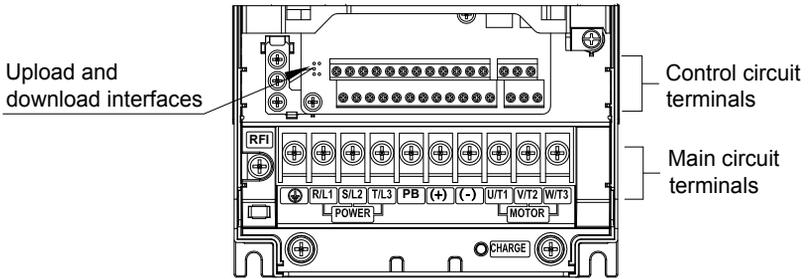

Fig.3-12 4~15kW Schematic of main circuit terminals
Weak analog voltage signals are easy to suffer external interference, and therefore the shielded cable must be used and the cable length must be less than 20 m, as shown in following figure. When the analog input signal to an external power supply, AI1 Terminal wiring as shown in Fig 3-12
- (a) .When the input analog voltage signal is potentiometer, AI1 Terminal wiring as shown in Fig 3-12